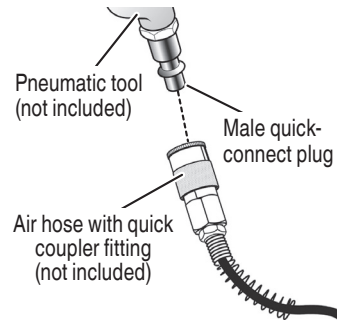

Fig. 7
- Connect the air powered tools to the air hose by inserting the male quick-connect plug to the quick-coupler at the end of the hose (Fig. 7).